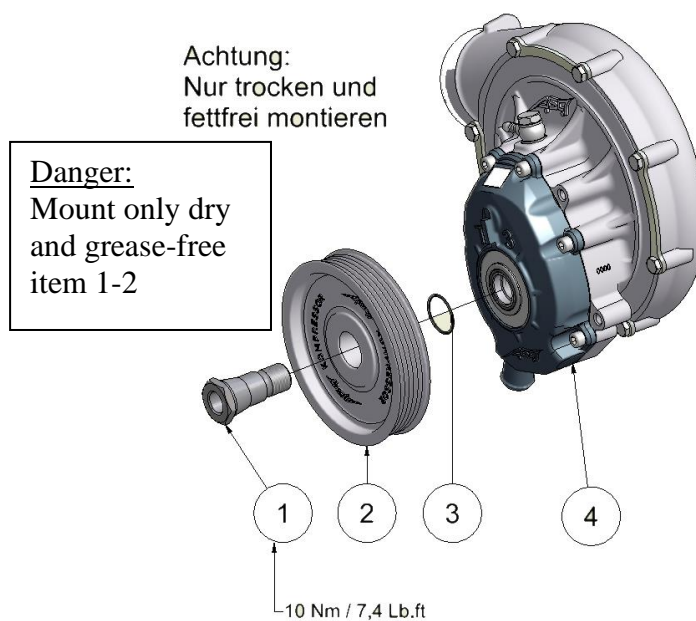

Figure 22
- a) Insert O-ring (Figure 22, #3) with grease into the groove of the compressor shaft.
- b) Insert the conical bolt (Figure 22, #1) into pulley (Figure 22, #2). The conical surfaces of the shaft and pulley must be clean, grease and oil free.